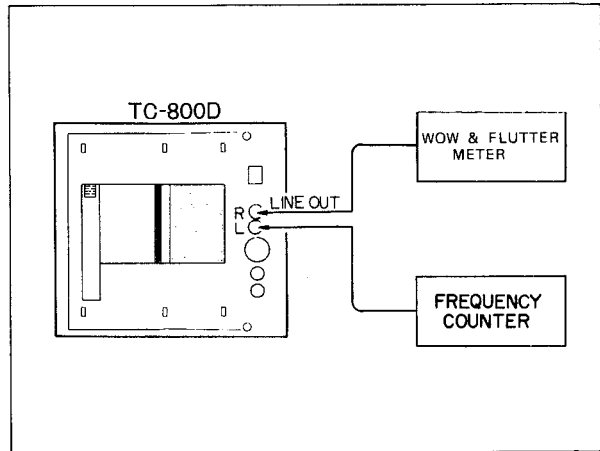

Fig. 2
2. Connect the digital frequency counter to the remaining LINE OUT jack. shown in Fig. 2.